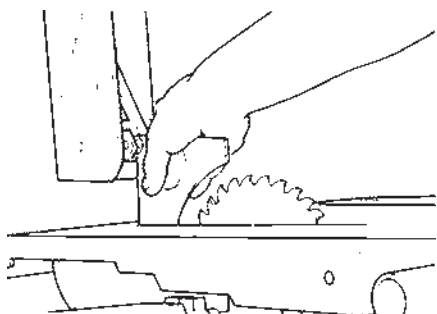

Figure B-129
8. Install the upper saw guard. Grasp the top of the riving knife, with the guard up, and slide the guard through the table insert into the lower saw guard. See Figure B-129. Tighten the guard lock knob.